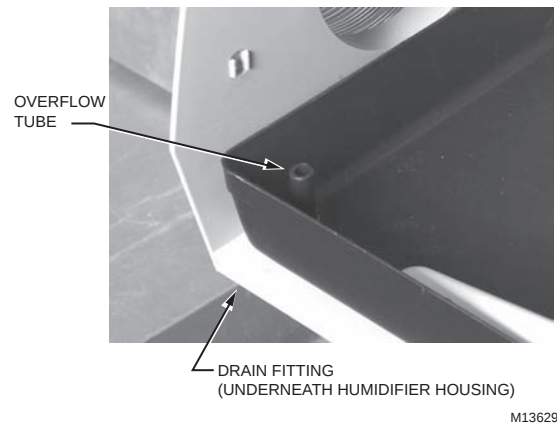

Fig. 28. Installing Water Pan.
- 9. Place the Water Pan in the Humidifier Housing so Overflow Tube is above previously installed Drain Fitting. See Fig. 28.**